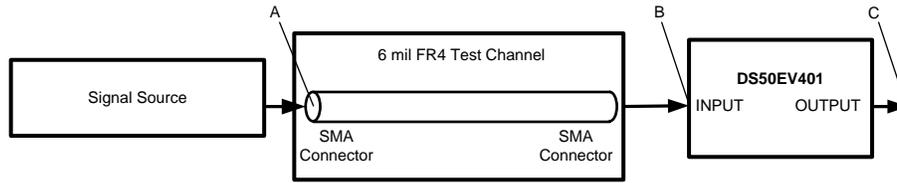

Figure 2. Test Setup Diagram
- (4) V_{IN-S} is a measurement of the input differential envelope, see FR4 / BACKPLANE Typical Performance Eye Diagrams. The device does not require an open eye.
- (5) Specification is ensured by characterization at optimal MODE setting and is not tested in production.
- (6) Measured with clock-like {11111 00000} pattern.
- (7) Specification is ensured by characterization at optimal MODE setting and is not tested in production.
- (8) Deterministic jitter is measured at the differential outputs (point C of Figure 2), minus the deterministic jitter before the test channel (point A of Figure 2). Random jitter is removed through the use of averaging or similar means.
- (9) Random jitter contributed by the equalizer is defined as sqrt(J_{OUT}² – J_{IN}²). J_{OUT} is the random jitter at equalizer outputs in ps-rms, see point C of Figure 2; J_{IN} is the random jitter at the input of the equalizer in ps-rms, see point B of Figure 2.